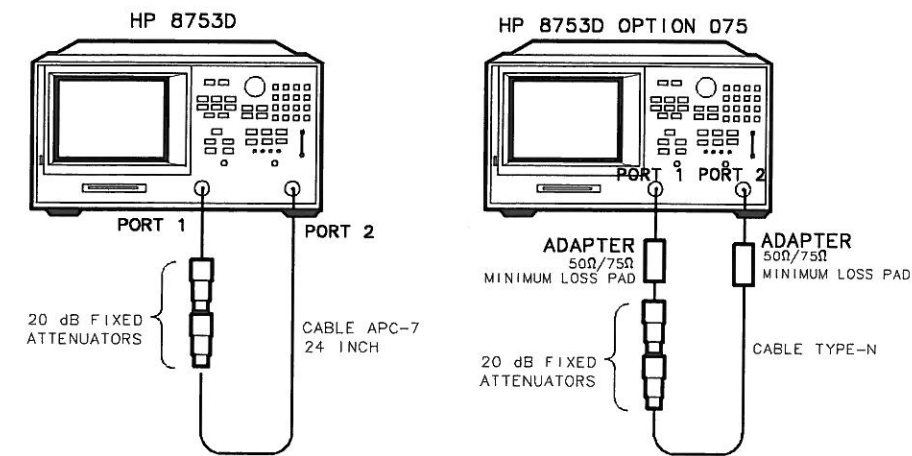

Figure 1-49. Test Port Output Harmonics Test Setup
- Connect the equipment as shown in Figure 1-49.